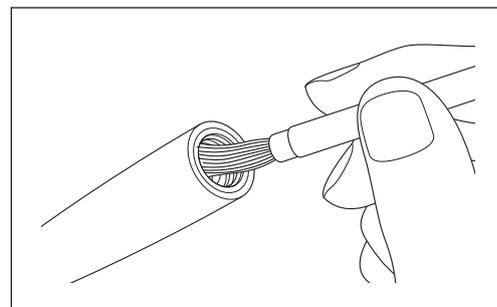

Fig. 39
- 3) Use the supplied Cleaning Brush to remove powder from the interior section where the Handpiece was connected (Fig. 39).